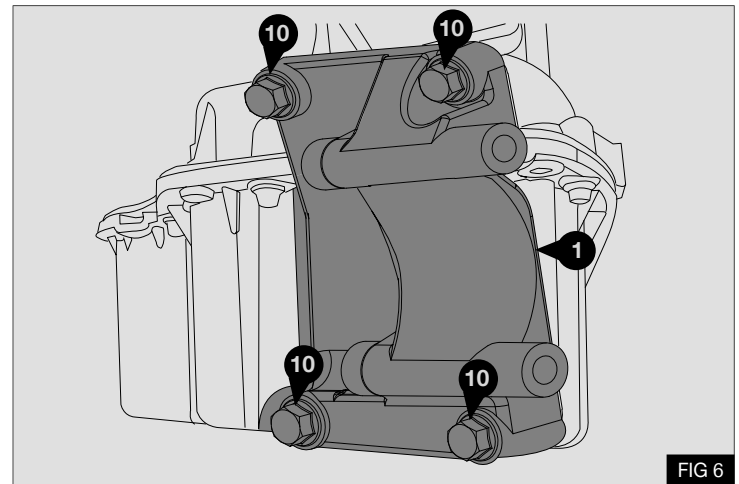

FIG 6
1. Install the mount bracket (1) to the engine using the supplied M8 x 60 bolts (10) - Fig 6
Torque bolts (10) to 25 Nm / 18.5 lb.ft using a calibrated torque wrench - Fig 6